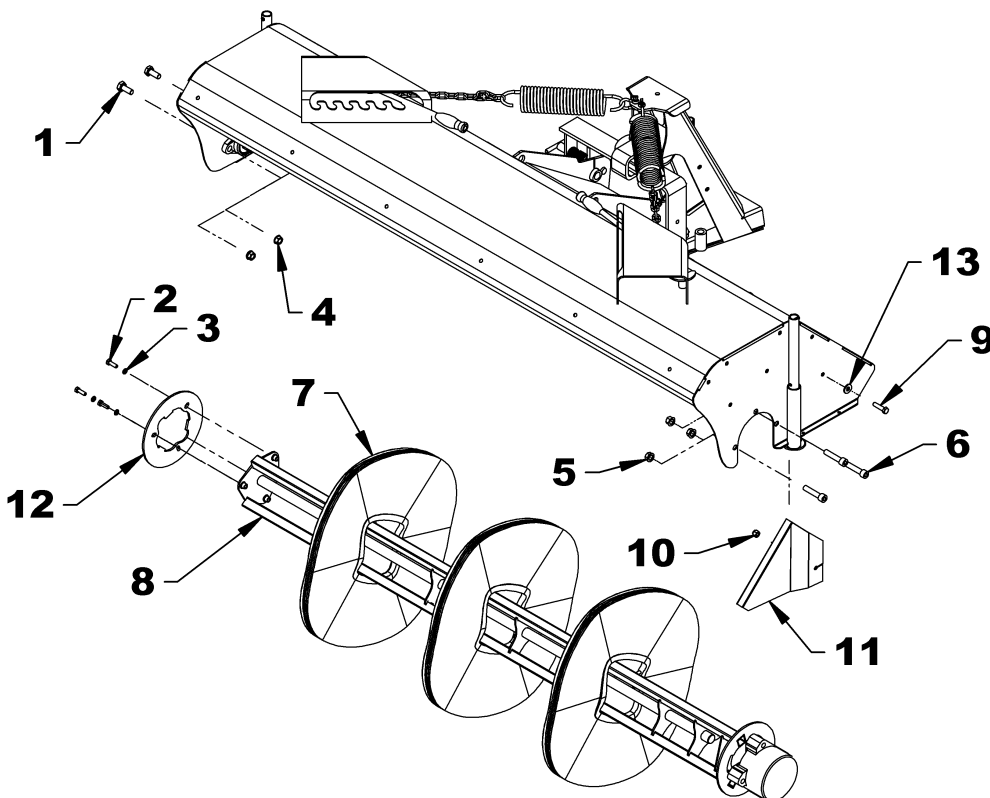

Figure 16
## ***Brush Replacement (Figure 16)***
8. Remove the wafers (item 7) by sliding them off the support, one by one.
9. **Fig.16-16a:** Install each brush (item 7) in the opposite direction of the one next to it (see Figure 16a). The two pins on each brush (fig.16a, item 15) that secure the brushes to the support must be alternated 120° (1/3 of a turn) to obtain a balanced distribution on each of the support's three square tubes, pointed by the item 8 on figure 16.
10. Reinstall the retaining plate (item 12) at the end of the brush support and secure with the three 5/16" x 1" hex. bolts (item 2) and the 5/16" lockwashers (item 3) making sure to screw each bolt 1/2" at a time to prevent the retaining plate from warping.
12. Make sure that the hydraulic hoses are well protected by the inner guard (item 11) to prevent damage during operation.